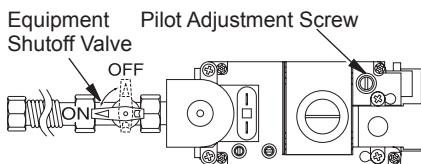

Figure 43 - Turning Equipment Shutoff Valve to the OFF Position
5. Turn equipment shutoff valve clockwise  to the OFF position (see Figure 43). Do not force.
6. Wait five (5) minutes to clear out any gas. Then smell for gas, including near the floor. If you smell gas, STOP! Follow "B" in the safety information, column 1. If you don't smell gas, go to the next step.
- Turn adjustment screw marked PILOT clockwise to decrease or counterclockwise to increase flame to proper size (see Figure 43, page 28). Do not remove adjustment screw.